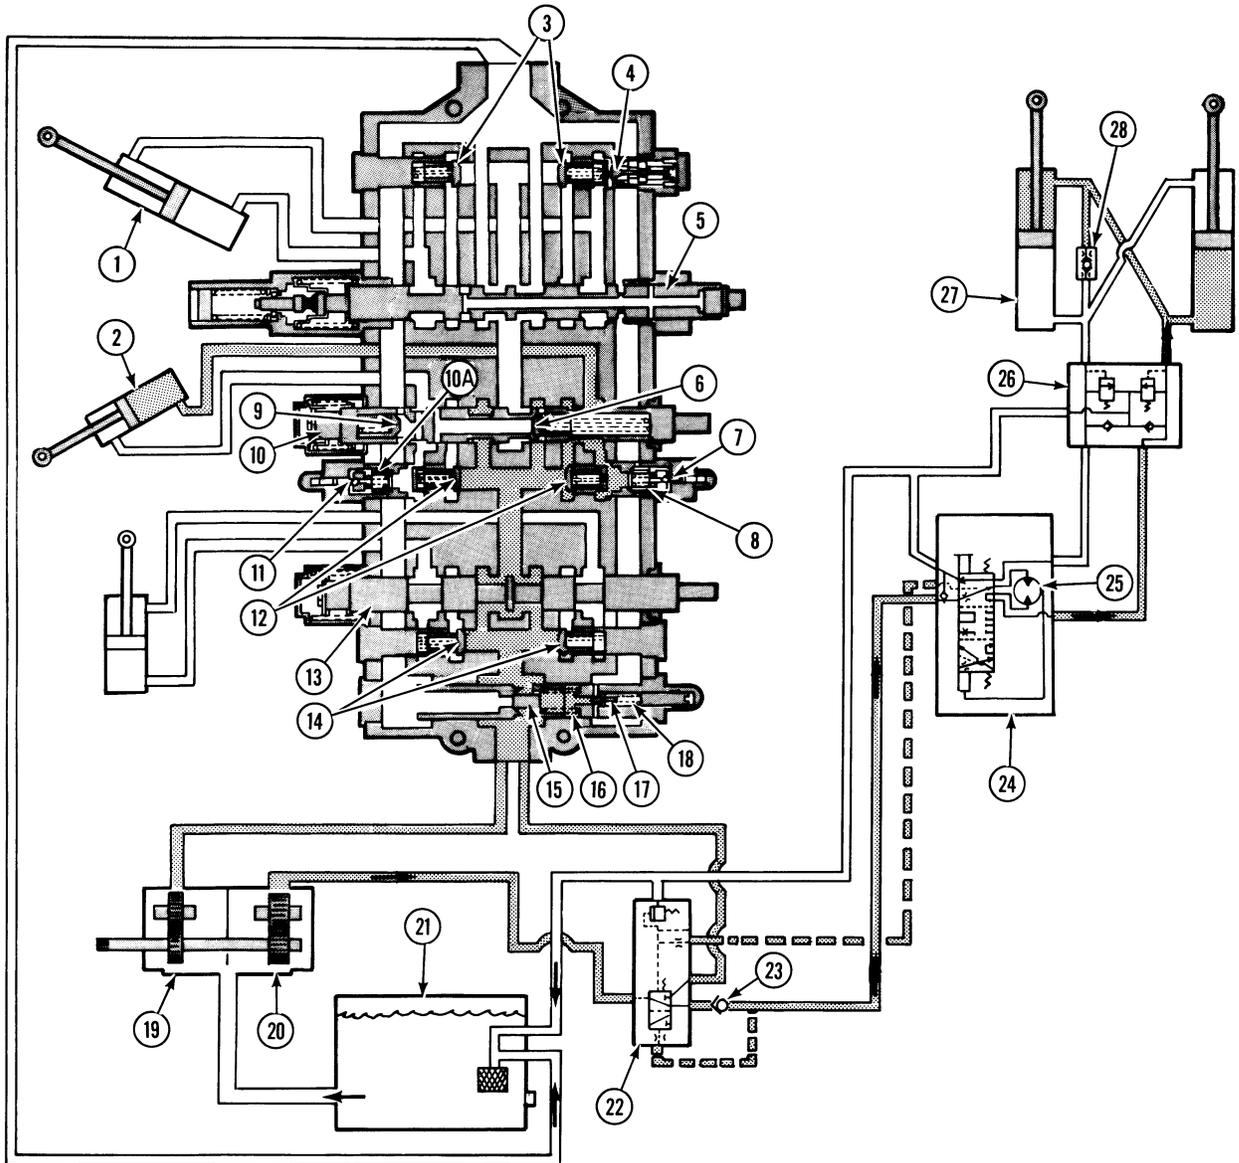

FIG. 1-2 (FR15) IMPLEMENT HYDRAULICS AND POWER STEERING
Figs.1-2, 1-3: The dual section, gear type hydraulic pump (19)(20) is externally mounted on the transmission housing and is connected to the engine crankshaft through the accessory drive gear train. The pump is in operation any time the engine is running, and its output volume varies with the speed at which it is driven.
Figs.1-2 or 1-3: The priority valve (22) at low idle directs the full flow of the steering pump gear section (20) to the steering system -- while steering. The valve also keeps the steering system fully charged at all times. When not steering, the priority valve diverts the full steering pump flow to the implements. Also, when not steering, check valve (23) traps the steering system oil to maintain a fully charged system.
Fig. 1-2, oil from pump (20) flows to and through the priority valve (22), opens check valve (23) and flows to the steering control valve (24). If not actually steering (wheel in neutral -- center) the oil is returned to the priority valve (22) to equalize the pressure on each end of valve. This
Figs. 1-2, 1-3: The crossover relief valves (26) provide relief for the cylinders and hoses when the steering valve is in the neutral position. The housing is mounted on the steering valve and contains two relief valves and two anti-cavitation valves. The valves are not serviceable and are replaced as an assembly.
Figs. 1-2, 1-3: The cushion valve (28) is located on the right side steering cylinder. The valve acts as a shock absorbing device when the steering valve neutralizes (and stops steering) as well as when steering begins.